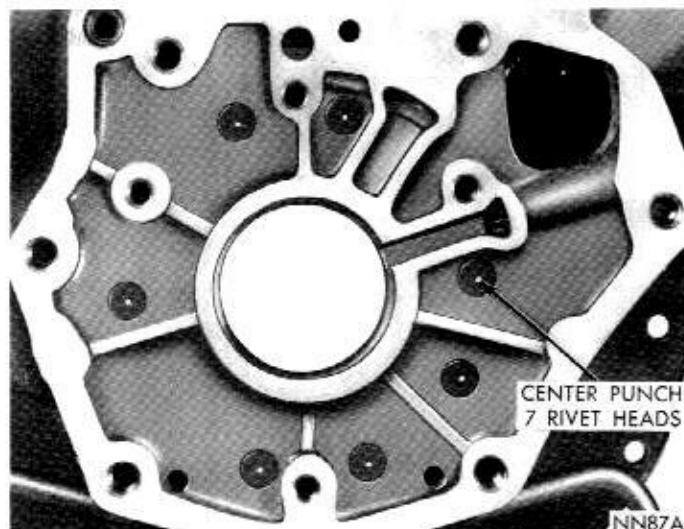

Fig. 74—Center Punch Rivet Heads (A-904)
(1) Remove four bolts securing output shaft support to rear of the transmission case. Drive support rearward out of the case with a wood block and hammer.
(2) Center punch the rivets **exactly** in center of each rivet head (Fig. 74).